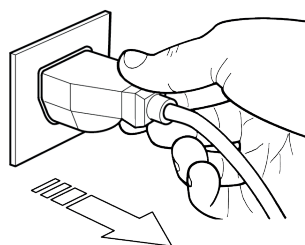
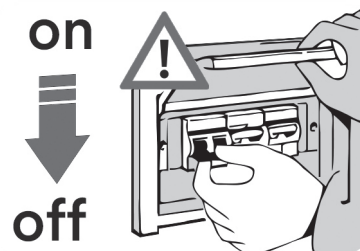

fig. 3
fig. 4
The equipment is not equipped on board with a disconnecter capable of simultaneously disconnecting power to two poles (phase and neutral) of the power supply. In fact, pressing the OFF button on the electronic control unit only stops the operation of the showcase, but does not switch off the power to the electrical components inside the showcase (lights, fans and terminal board). The disconnection can be done by means of a plug socket (fig.3), but the installer is strongly advised to place an omnipolar switch (fig.4) on the electrical connection upstream of the equipment to ensure the total disconnection of the Base Refrigerated from the power supply.
**Pressing the OFF button on the electronic control unit stops the operation of the Base Refrigerated but does not cause the disconnection of the power supply. It is therefore obligatory, in the event of maintenance work, to completely disconnect the showcase from the mains by pulling the power plug (fig.3) or by acting on the main switch installed upstream of the Base Refrigerated (fig.4).**
**In the event of a fire, always immediately switch off the main power line switch (fig. 4).**